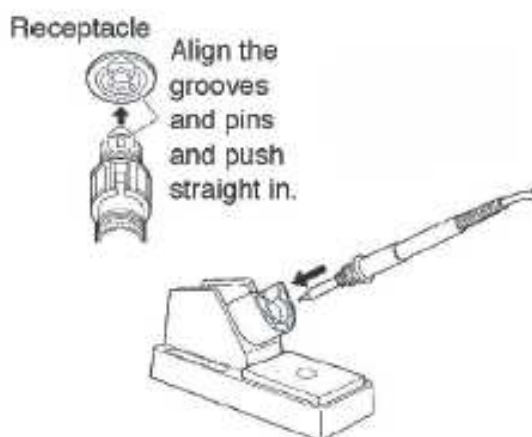

Fig. 9
2. Insert soldering iron into the stand. (Fig. 9)
4. Connect soldering iron cable to the 5 hole socket on control station. (Fig. 9)